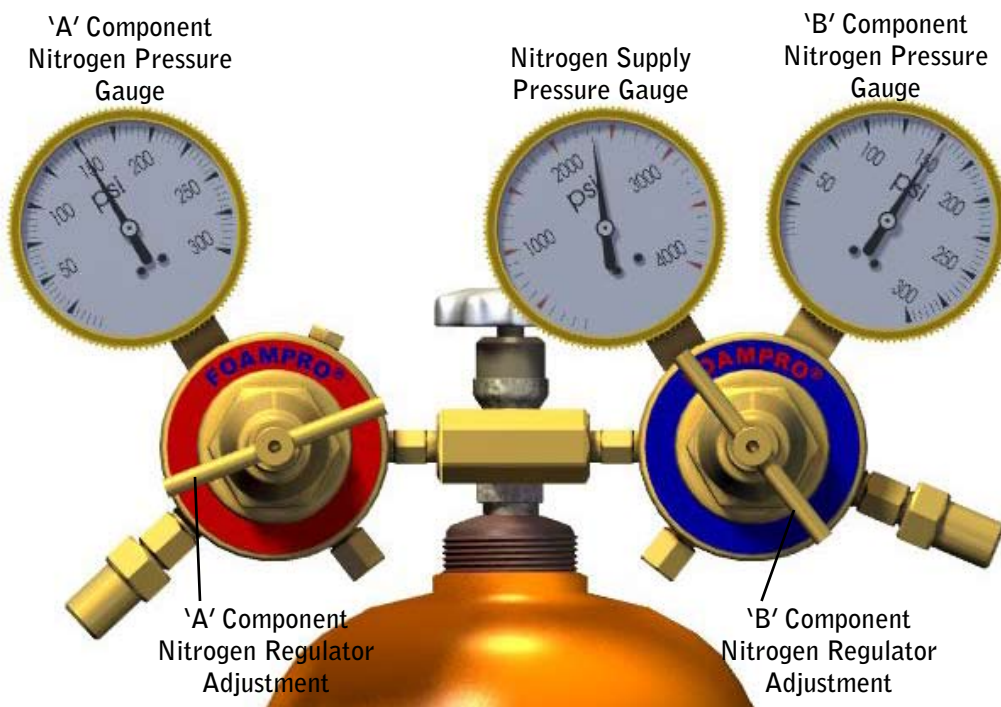

Figure 13
- 2 | Using the nitrogen pressure adjustment valve for the chemical cylinder being adjusted, turn the adjustment valve counterclockwise two full turns. (See Figure 13)
- 6 | Using the nitrogen pressure adjustment valve for the chemical cylinder being adjusted, turn the valve clockwise to the desired pressure. (See Figure 13)